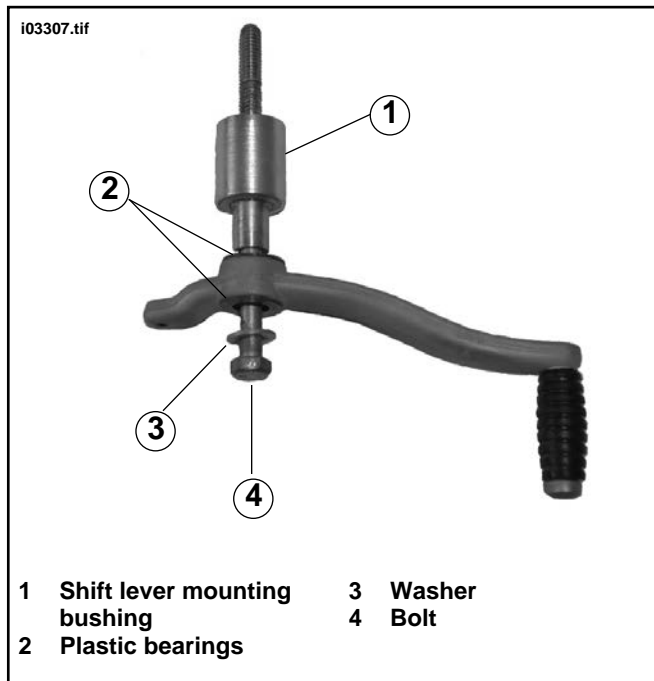

Figure 3. Shift Lever (Assembled)
8. See Figure 3. Obtain shift lever (part number N0621.01A1) and install plastic bearings (part number N0513.T). Install washer saved from Step 6 to 4-3/4 inch hex bolt (part number AA0538.1CZ). Install bolt with washer through shift lever and shift lever mounting bushing (part number N0614.01A3) as shown.